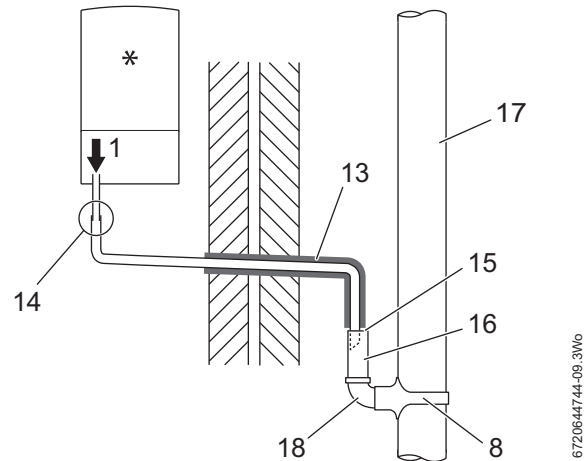

Fig. 11 Disposal into a rainwater down pipe
- Refer to figure 11 when a rain water down pipe is used to dispose of condensate.